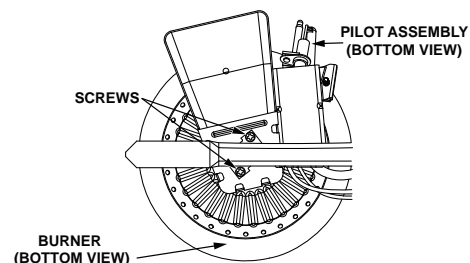

FIGURE 24.
1. Take off the burner by removing the two (2) screws located underneath the burner.
2. Check the burner to see if it is dirty or clogged. The burner may be cleaned with soap and hot water (Figure 24). **IMPORTANT: DO NOT** remove the orifice.
2. Remove the burner to access the pilot/thermopile assembly. Remove and keep the screws securing the burner to the manifold (Figure 24). **IMPORTANT: DO NOT** remove the orifice.
8. Using the pilot screw removed earlier, attach the new pilot/thermopile assembly. Reattach the burner to the manifold using the screws removed earlier. **NOTE:** Make sure the burner scoop is oriented to the pilot side of the manifold tube (Figure 24).